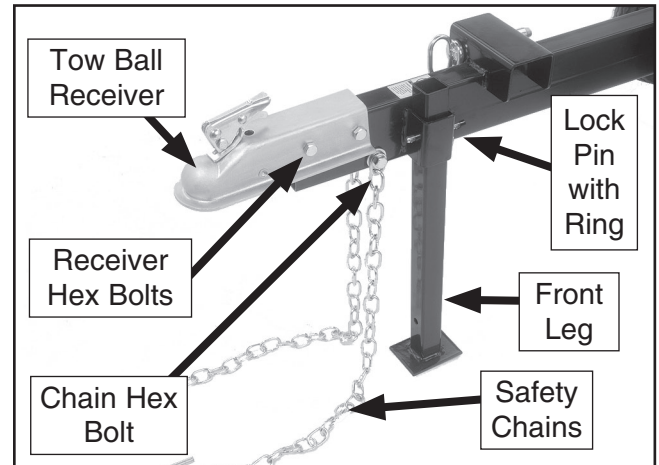

Figure 6. Towing kit.
5. Place the front leg into the receiver and insert the lock pin, as shown in **Figure 6**.
6. Install the tow ball receiver with its attached bolts, and use the attached M12-1.75 x 85 hex bolt, flat washer, and lock nut to install the safety chains as shown in **Figure 6**.